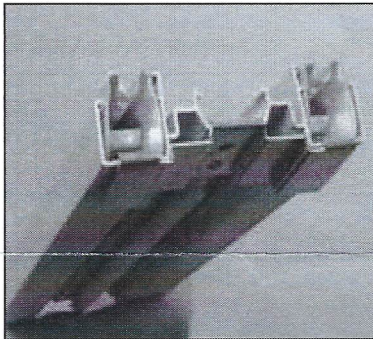

Figure 12
5. Slide the balance tubes back down into the hanger clip hooks until you hear a "click". See figure 12. Look down the from the top of the assembly to insure that the pins are in the proper location on the hanger clip hooks; if not, pull balance tube back and repeat step.